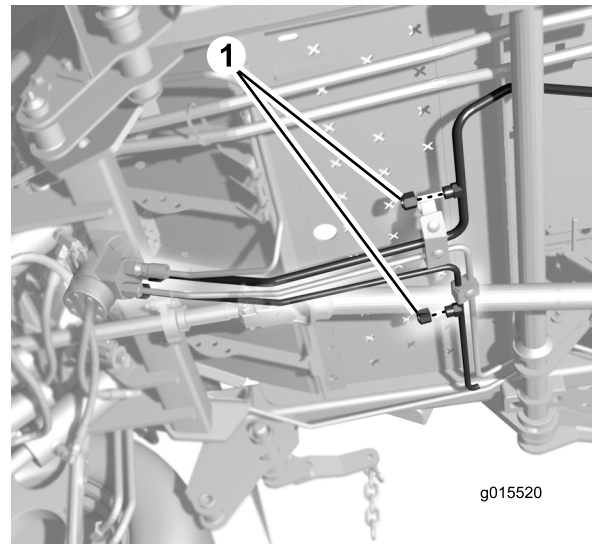

Figure 8
1. Place a drain pan under the caps on the hydraulic tubes (Figure 8).
2. Remove the caps from the hydraulic tubes on the machine (Figure 8). Remove the caps one at a time as installing the tubes to prevent excess hydraulic fluid loss.